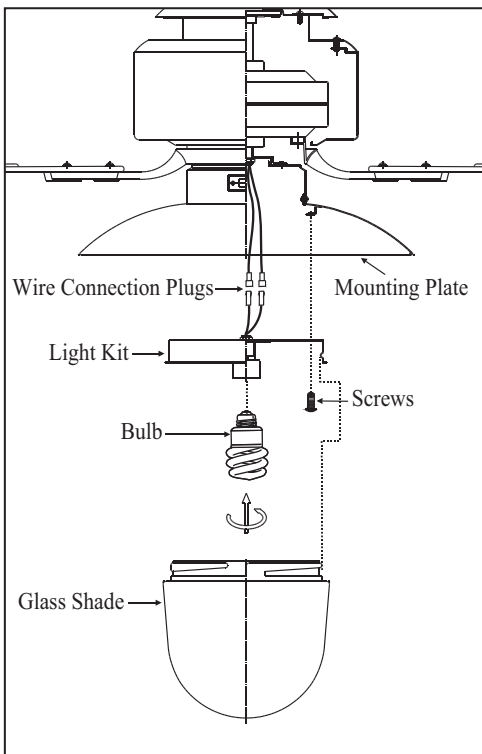

Figure 22
1. Raise and hold the light kit close to the mounting plate and proceed to do the wire connections. Connect the white wire connectors from the light kit and fan, follow the same procedure with the blue and black wire connectors. (Fig. 22)
2. Carefully push all wires back into the mounting plate, then install the light kit onto the mounting plate with 3 screws provided. Be sure to tighten all screws. (Fig. 22)
4. Raise glass shade up against the light kit and secure it to fan by turning glass clockwise until snug. **DO NOT OVERTIGHTEN.** (Fig. 22)